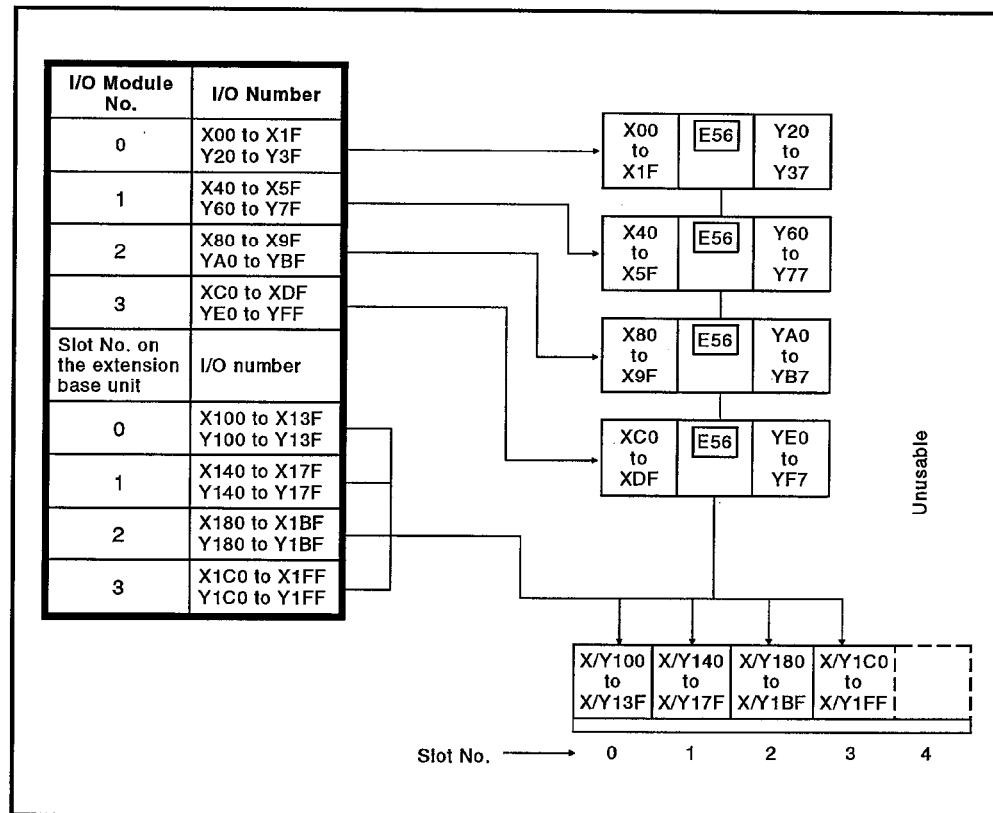

Fig. 4.4 Example of I/O Allocation (2) (with an extension base unit)
- (2) Fig. 4.4 shows an example of I/O allocation when the A0J2H I/O modules and an extension base unit are used.